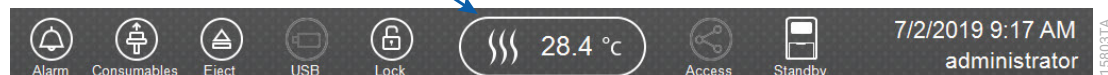

Figure 18. Preheating Oven.
2. Select the **Oven Temperature** icon in the Header on the 'Main Menu' screen as shown in Figure 18 to start preheating the oven temperature to 60°C. The temperature displayed will change as the temperature of the oven increases. When 60°C is reached, a check mark will appear adjacent to the temperature.